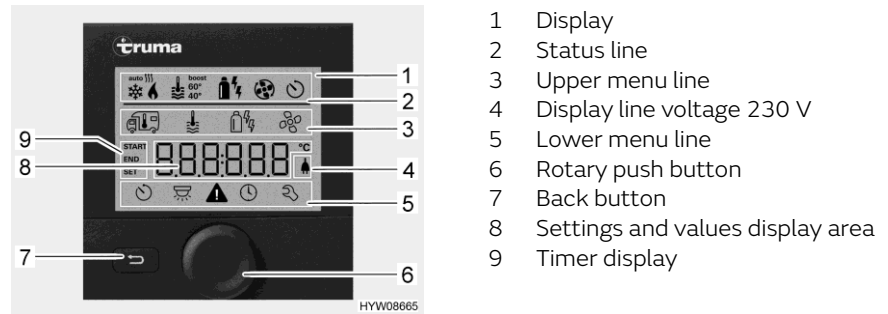
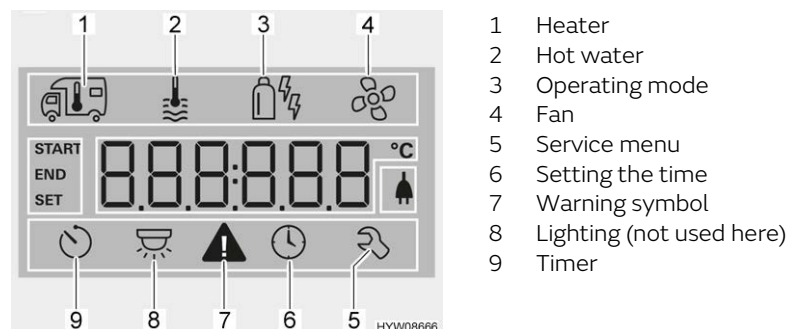

Fig. 212 Operating unit with displays
Fig. 213 Display (operating unit)
- Status line (Fig. 212,2)
- Upper menu line (Fig. 212,3)
- Display area (Fig. 212,8)
- Lower menu line (Fig. 212,5)
- Press and hold the rotary push button (Fig. 212,6) for approx. 3 seconds. Both menu lines (Fig. 212,3 and Fig. 212,5) are displayed. The first symbol flashes.
- Turn the rotary push button (Fig. 212,6) until the required menu symbol flashes.
- Press the rotary push button to save the value set. If you do not wish to change the value originally set: Press the back button (Fig. 212,7).
- Turn the rotary push button (Fig. 212,6) until the heater menu symbol (Fig. 213,1) flashes.
- Press the rotary push button to save the value set. The symbol in the status line (Fig. 212,2) flashes until the room temperature set is reached. If you do not wish to change the value originally set: Press the back button (Fig. 212,7).
- Turn the rotary push button (Fig. 212,6) until the hot water menu symbol (Fig. 213,2) flashes.
- Press the rotary push button to save the value set. The symbol in the status line (Fig. 212,2) flashes until the hot water temperature set is reached. If you do not wish to change the value originally set: Press the back button (Fig. 212,7).
- Turn the rotary push button (Fig. 212,6) until the menu symbol operating mode (Fig. 213,3) flashes.
- Press the rotary push button to save the set operating mode. To revert to the original setting: Press the back button (Fig. 212,7).
- Turn the rotary push button (Fig. 212,6) until the fan menu symbol (Fig. 213,4) flashes.
- Turn the rotary push button (Fig. 212,6) until the timer menu symbol (Fig. 213,9) flashes.
- Press the rotary push button. The timer is activated. The timer symbol (Fig. 213,9) flashes when the timer is programmed and active.
The warning symbol (Fig. 213,7) flashes in the event of a warning. The heater continues to operate. In the event of only a temporary fault, the warning symbol goes out automatically.